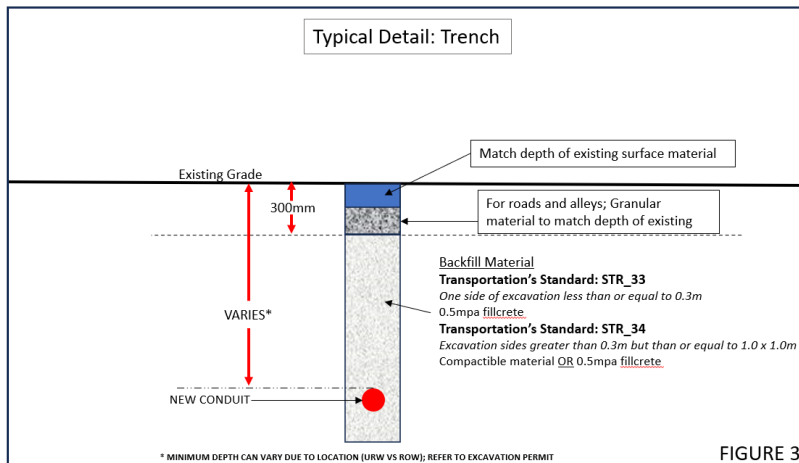

FIGURE 3
3. Example of a typical trench detail (or a drill profile detail) showing the conduit depth with reference to the surface, see FIGURE 3.